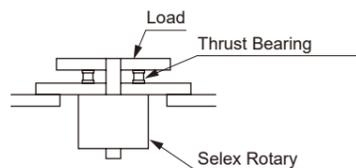

Figure 1
If the axial load (thrust load) on the shaft exceeds the allowable value, faulty operation could occur. Therefore, do not apply a load in excess of the allowable value. If unavoidable, use a structure with a thrust bearing as shown in Figure 1.
(1) First, loosen the Hexagon Nut to the state shown in Figure 1.